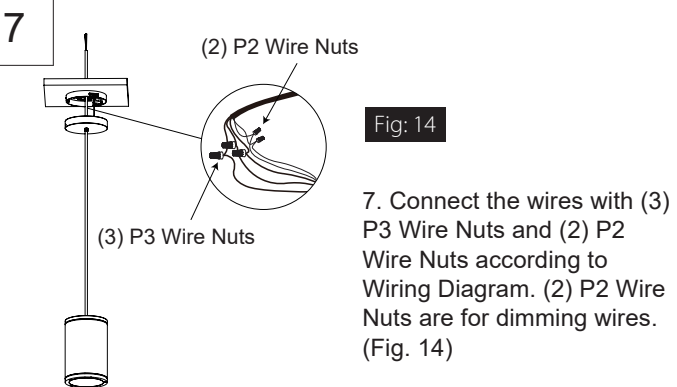

Fig: 14
7. Connect the wires with (3) P3 Wire Nuts and (2) P2 Wire Nuts according to Wiring Diagram. (2) P2 Wire Nuts are for dimming wires. (Fig. 14)